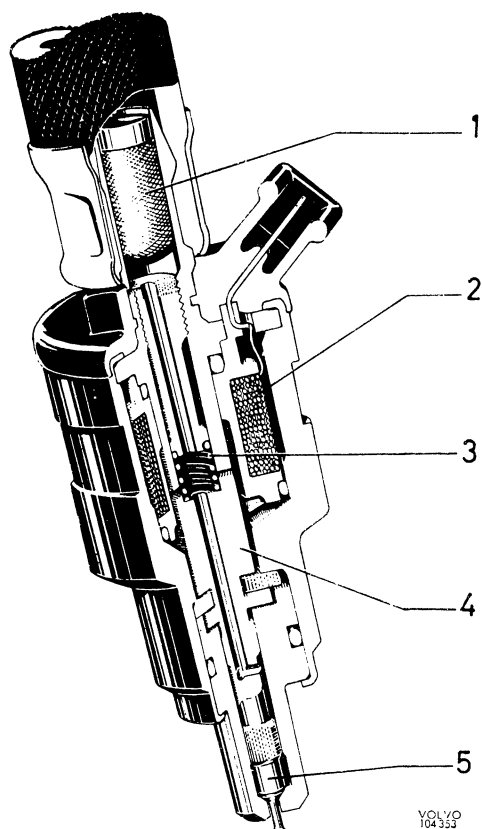

Fig. 2-64. Injector
This means that injectors 1 and 4 inject when their respective intake valve is open, but that injectors 2 and 3 inject when their respective intake valve is closed. In the latter case, fuel is stored in the intake port until the intake valve opens. The injector consists of a housing containing a sealing needle, magnetic winding and return spring, see Fig. 2-64. When the magnetic winding (2) is not in circuit, the return spring (3) presses the sealing needle (5) against a seat and this shuts off the supply of fuel.